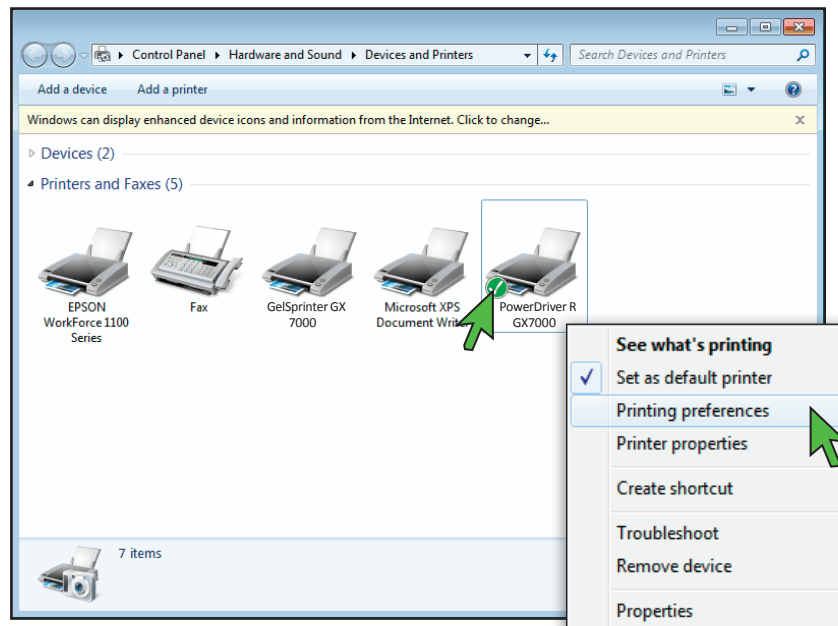

FIGURE 2
2. In the Devices and Printers folder, right-click the **PowerDriver-R GX7000** and select **Printing Preferences** (see *FIGURE 2*). This will open the PowerDriver-R GX7000 Printing Preferences window (see *FIGURE 3*).